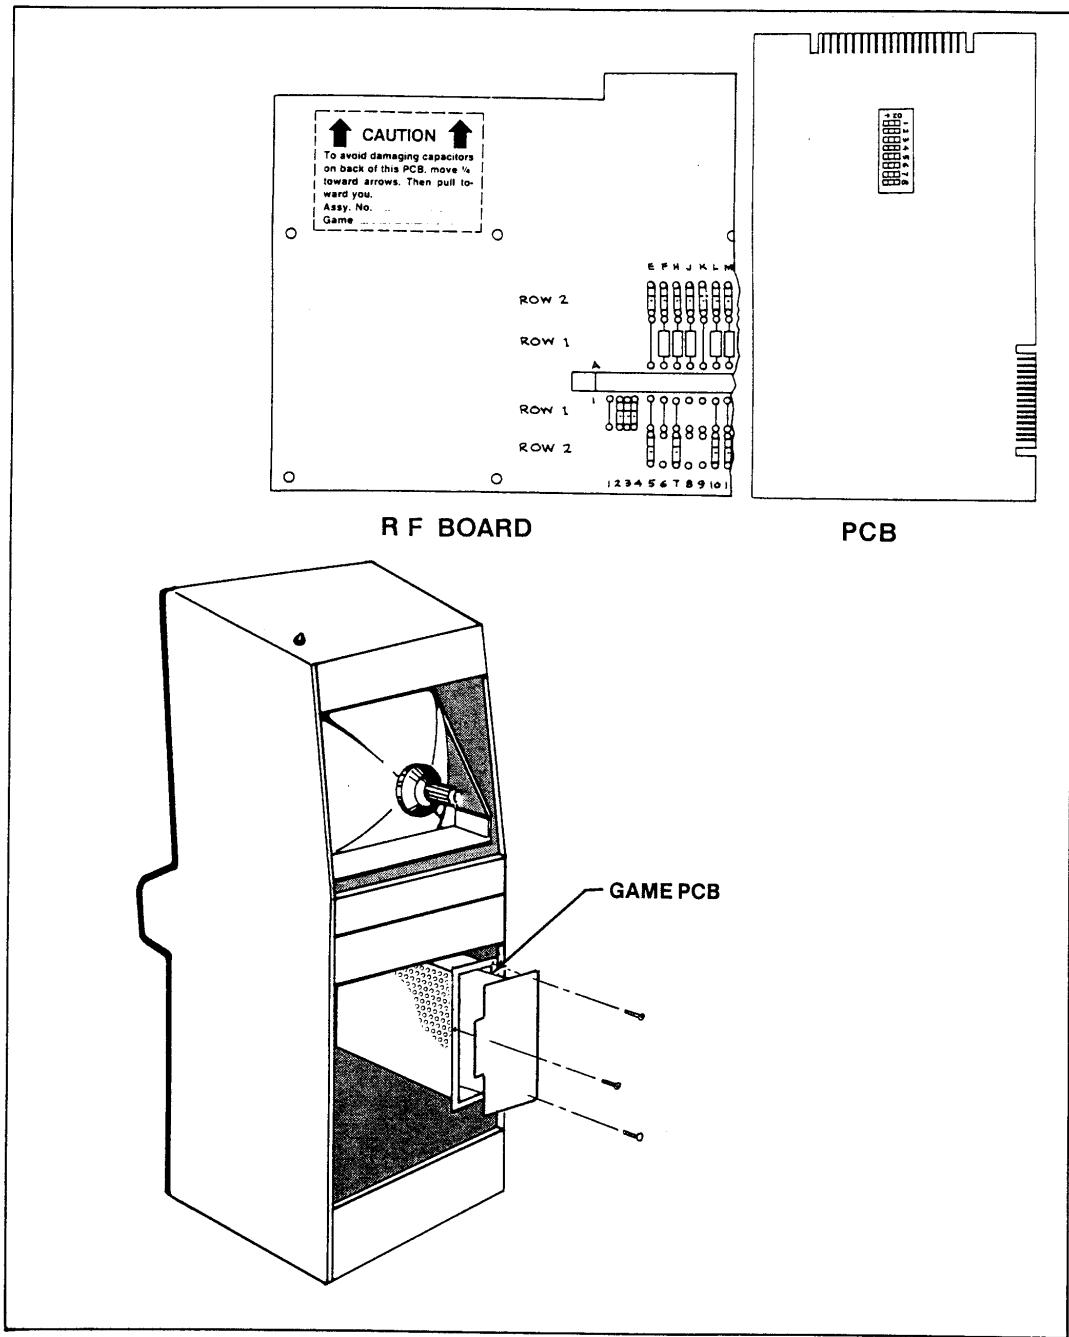

Figure 1-5 Option DIP Switches on Game PCB
2. Locate the radio frequency (RF) shield assembly immediately inside the cabinet on the right. See Figure 1-5. (It is an aluminum box with small holes.) On one end of the box is a printed circuit board (PCB) with an edge connector coming from the edge of the board.
IMPORTANT: To prevent damage to the capacitors on the rear side of the PCB, move the board about $\frac{1}{4}$ inch toward the edge connector (same direction as the two arrows on the small white label). Then pull the RF board out toward yourself. Never yank the RF board straight out of the metal box. (See Figure 1-5 for caution label identification.)